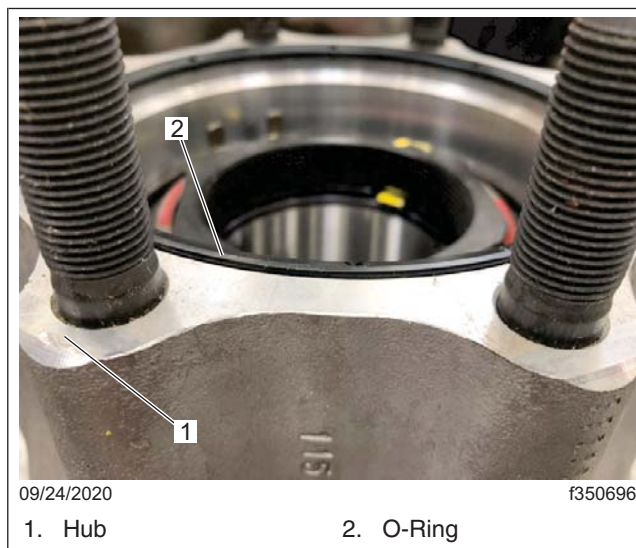

Fig. 2, O-Ring Seating
5. Install the O-ring in the groove. When properly seated, the outer surface of the O-ring should appear slightly outside the hub surface. See Fig. 2.